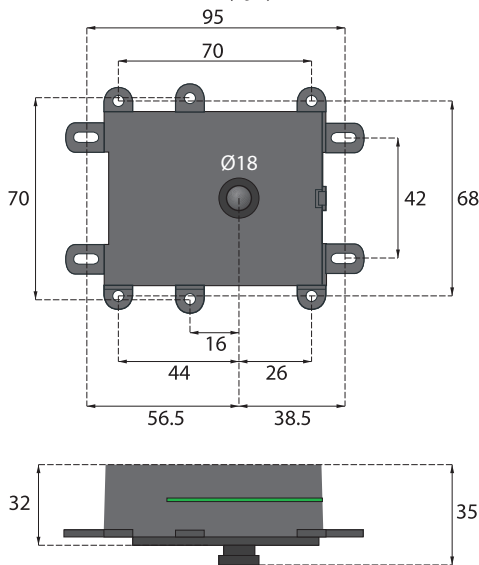

fig.1
a. Dimensions camera module in mm (fig.1)